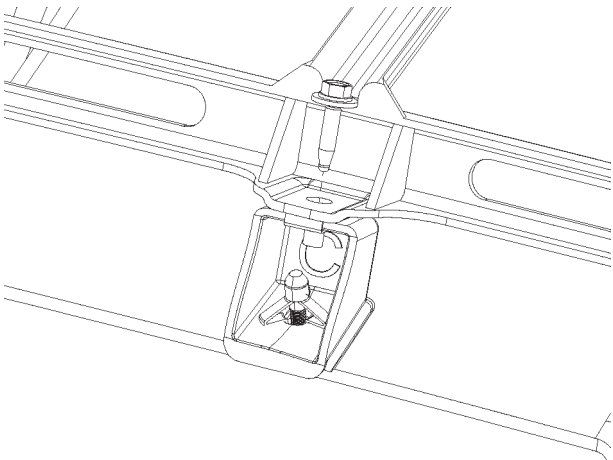

FIGURE 21
33. Loosely attach 4 middle brackets to impact absorber using screws (from Step 8). Refer to figure 21.